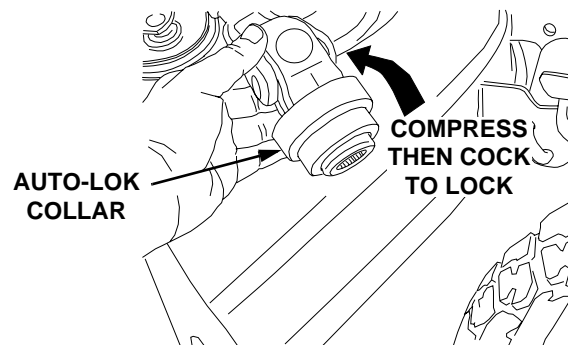
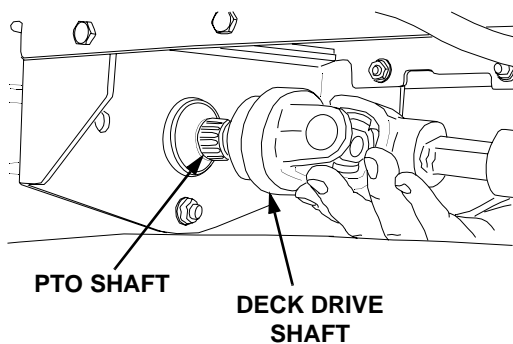

Figure 16
Figure 17
12. Compress the auto-lok collar of the deck drive shaft rearward, then cock to lock the collar in the released position (See Figure 16).
- Slide the deck drive shaft fully onto the PTO shaft of the tractor (See Figure 17). The auto-lok collar of the drive shaft should snap into the locked position when the shaft is properly positioned on the PTO shaft.
- Support the deck drive shaft to prevent it from dropping; then pull the auto-lok collar rearward and slide the drive shaft off of the PTO shaft (See Figure 16 and Figure 17).